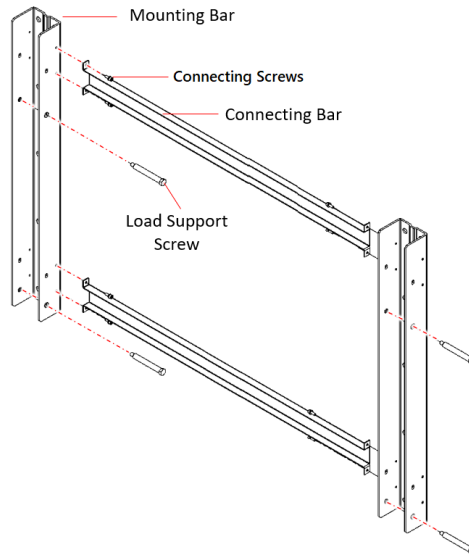

Figure 17: Assembling the Mounting Bracket
1. Insert and secure the four Load Support Screws into the two Mounting Bars (see *Figure 17*). Torque the Load Support Screws to 8 N*m.